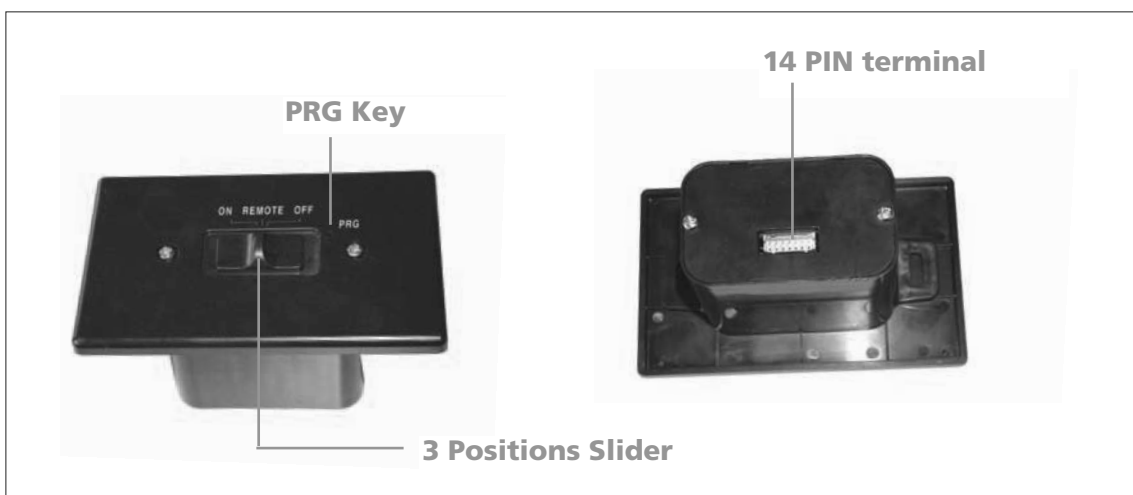

Fig. 1: Proflame Receiver body.
The Proflame Receiver (Fig. 1) connects directly to the gas valve and stepper motor and Fan Control Module with a wiring harness. The Receiver is powered by 4 AA type batteries. The Receiver accepts commands via radio frequency from the Transmitter to operate the appliance in accordance with with the particular Proflame system configuration. The Receiver three position slider switch can be set to one of three positions: ON (Manual Override), Remote (Remote control) or Off.
Install the 4 AA batteries into the receiver battery bay. Note the polarity of the battery and insert into the battery bay as indicated on the Battery cover (+/-). Place the 3 position slider switch in the "Remote" position. (Fig. 1) Using the end of a paper clip, or other similar object, insert the end of the paper clip into the hole marked "PRG" on the Receiver front cover (fig 1). The Receiver will "beep" three (3) times to indicate that it is ready to synchronize with a Transmitter. Install the 3 AAA type batteries in the Transmitter battery bay, located on the base of the Transmitter. With the batteries already installed in the Transmitter, push the On button. The Receiver will "beep" four times to indicate the Transmitter's command is accepted and sets to the particular code of that Transmitter. The system is now initialized.